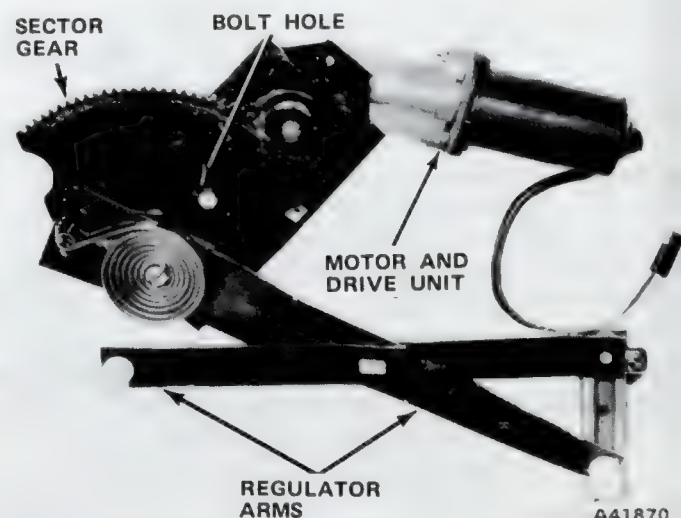

Fig. 3J-77 Spring Retention Bolt Hole Location
- (2) To retain regulator spring tension, drill a 1/4 inch hole in sector gear and mounting bracket.
- (3) Insert bolt in drilled hole and secure with nut (fig. 3J-77).
- (4) Remove regulator motor.
- (5) Insert a screwdriver blade into coupling and turn until tension on drive unit is relieved.
- (6) Remove bolts securing drive unit to regulator and remove drive unit.